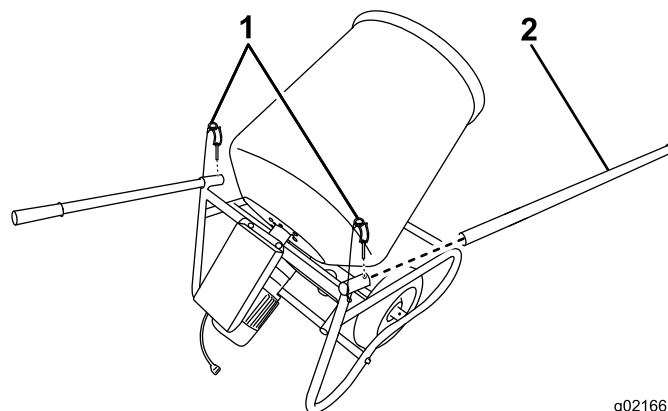

Figure 9
- Slide handlebars into place, and secure them using the locking pin (Figure 9).